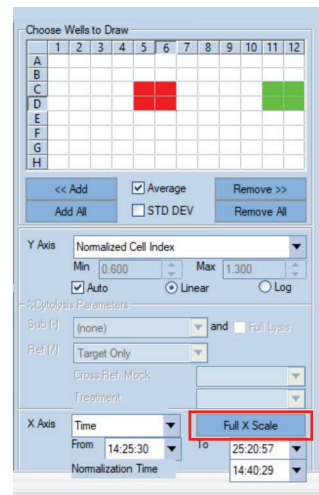

Figure 6. The **Full X Scale** button.
5. Click **Full X Scale** to again visualize the whole plot (Figure 6).